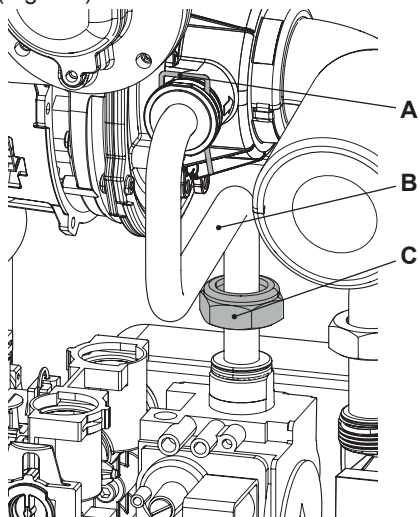

Fig. 9.1
- Unscrew the connector "C", remove the fixing fork "A" and remove the pipe "B" (Fig. 9.1).